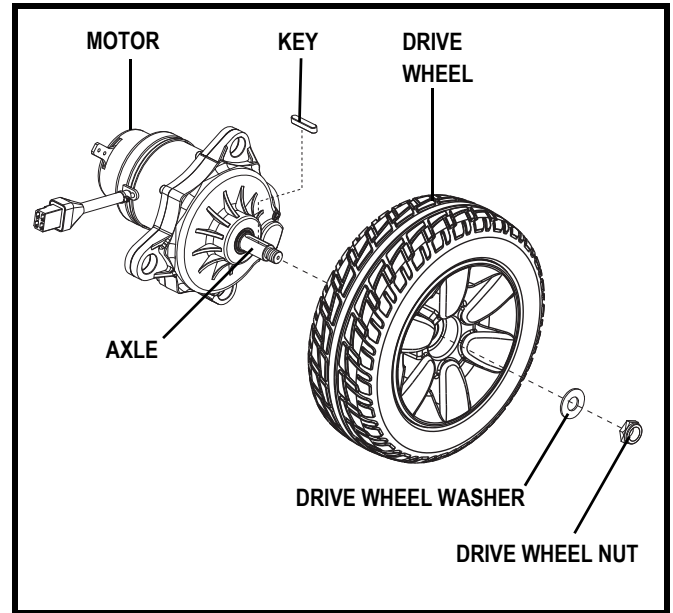

Figure 18. Jazzy Sport Drive Wheel Removal
4. Remove the drive wheel nut and washer from the axle. See **figure 18**.
8. Reinstall the drive wheel nut and washer onto the axle and tighten. See **figure 18**.